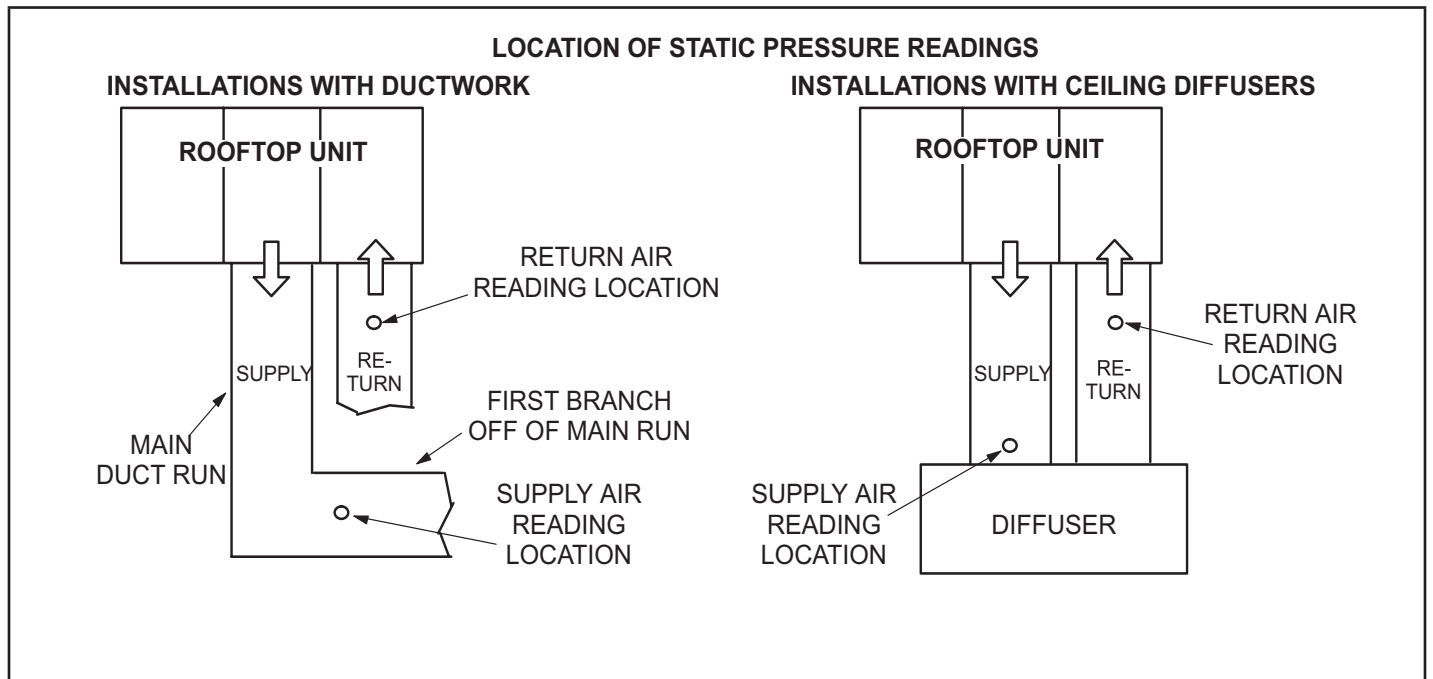

FIGURE 7
- 2 - With all access panels in place, measure static pressure external to unit (from supply to return). Add any additional air resistance for options and accessories shown in accessory air resistance tables. Blower performance data is based on static pressure readings taken in locations shown in figure 7.
- 2 - With all access panels in place, measure static pressure external to unit (from supply to return). Blower performance data is based on static pressure readings taken in locations shown in figure 7.